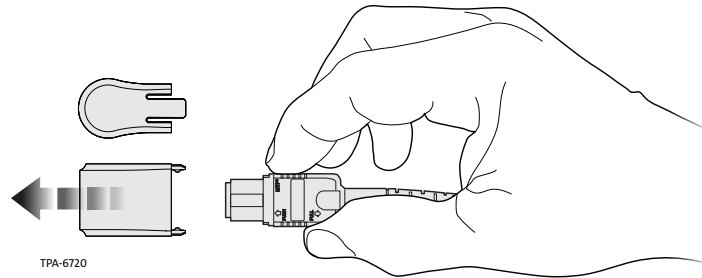

Figure 16A
Step 5: From the front of the housing, remove the MTP connector dust cap by pulling on the dust cap while holding the connector body/housing/shroud (see page 12, Figure 16A). Also remove the module
- Step 2:** For the initial mating, remove dust caps from LC or MTP connectors on the jumpers cables by pulling on the dust cap while holding the connector body/housing/shroud (see page 12, Figure 16A). For the initial mating, do not clean or scope connectors. Corning CleanAdvantage connectors are shipped with an optimized dust cap to maintain cleanliness for the first use. **NOTE:** Only LC connectors are shown in Figure 19 and Figure 20.
Step 1: With the trunk cables securely installed in the housing, remove the dust caps from the MTP® trunk connector legs and MTP adapter panel (only on the rear side of the adapter panel) by pulling on the dust cap while holding the connector body/housing/shroud. (See page 12, Figure 16A) For the initial mating, do not clean or scope connectors. Corning CleanAdvantage™ connectors are shipped with an optimized dust cap to maintain cleanliness for the first use. Keep dust caps in place on the front of the adapter panel, if applicable.
- Step 2:** Remove the dust caps from the front of the MTP adapter panel, if applicable, and the MTP connector of the harness, jumper, or trunk by pulling on the dust cap while holding the connector body/housing/shroud. (See page 12, Figure 16A) For the initial mating, do not clean or scope connectors. Corning CleanAdvantage™ connectors are shipped with an optimized dust cap to maintain cleanliness for the first use.